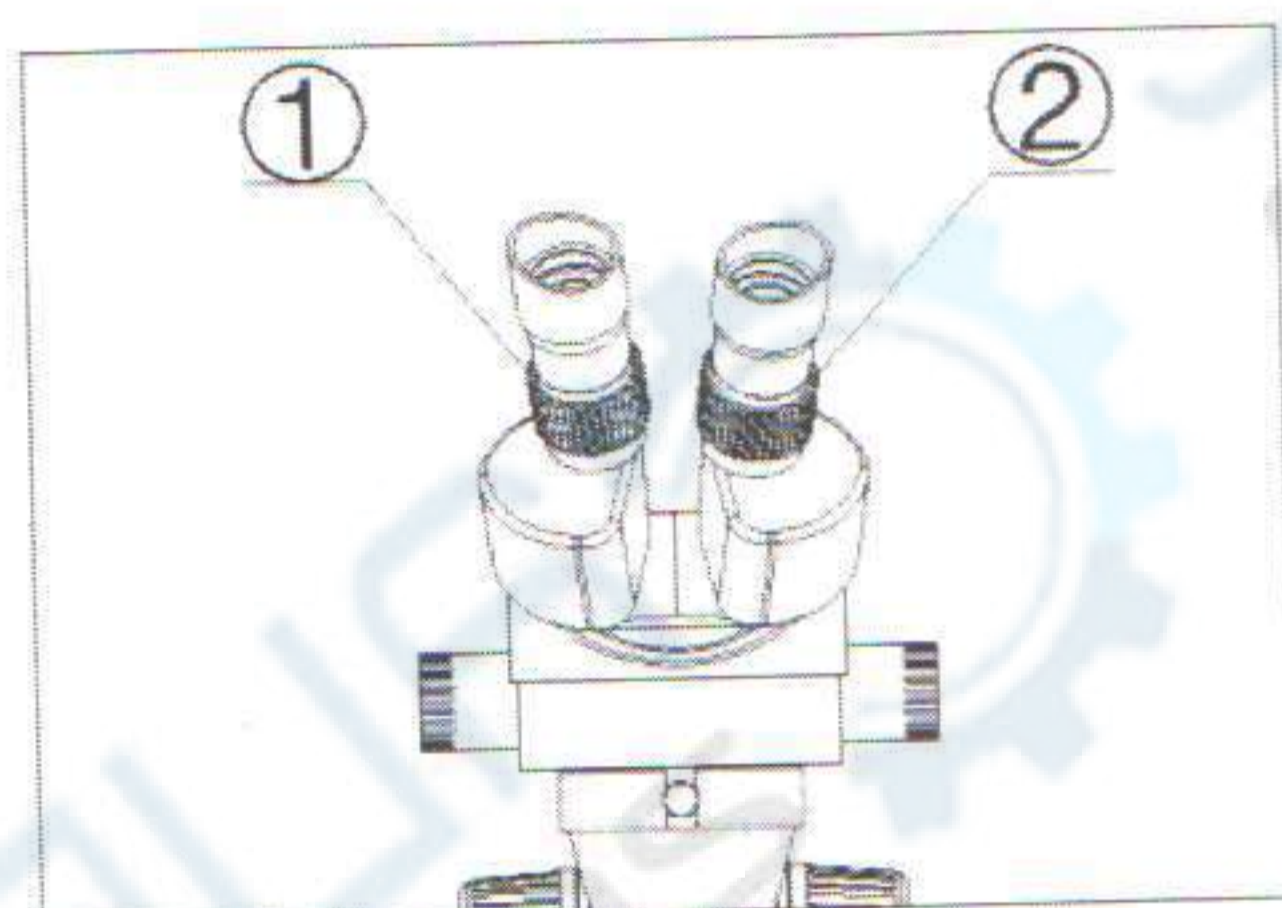

Fig.3
- 5) Observe the specimen through the right eyepiece and make the image clear by turning the right diopter adjusting ring ②. (Fig.3)
- 6) Redo the step(1),(3),(4)and (5) till the right adjusting ring is more precise.
- 7) Do the step (4) and make the image clear which is observed through the left eyepiece by turning the left diopter adjusting ring ①. (Fig.3)